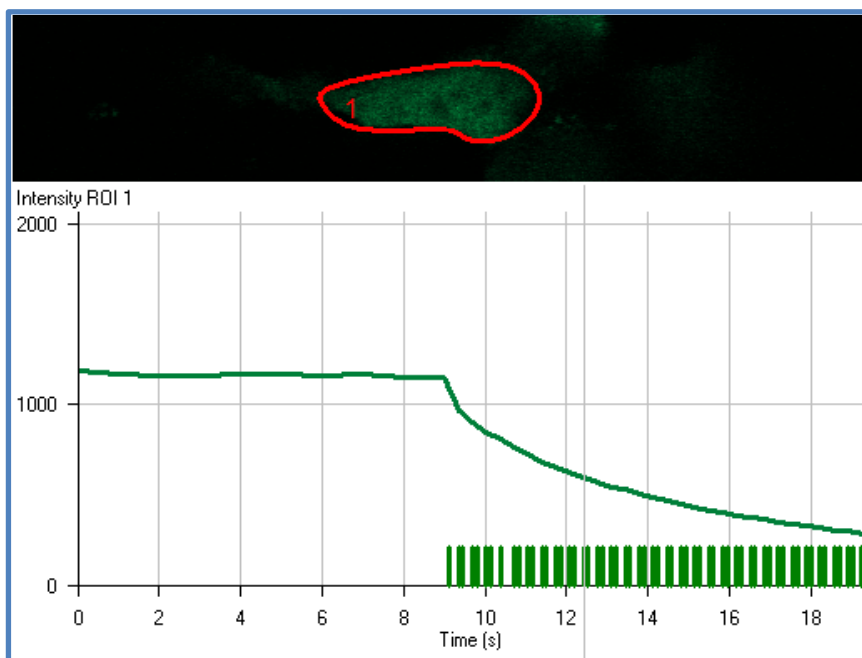

Figure 4.
- [To analyse the time series data in the Zeiss software, go to Mean ROI in the image window. Draw an ROI **within** the cell/object and generate a graph over time. See Figure 4]